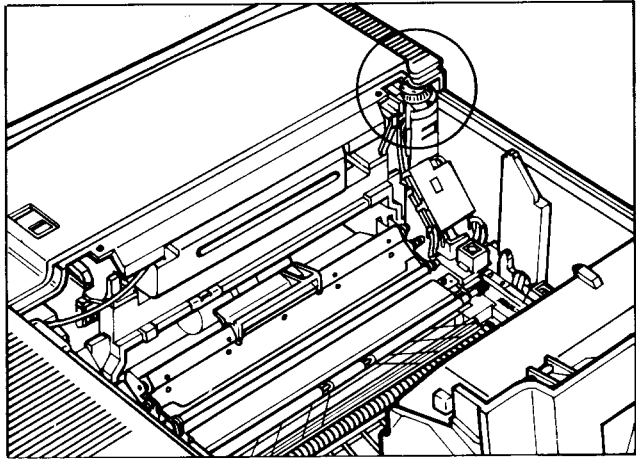

Fig. 6-4
- At the left front you will see a green knurled dial (Fig. 6-4), bearing the odd numbers 1 through 9.